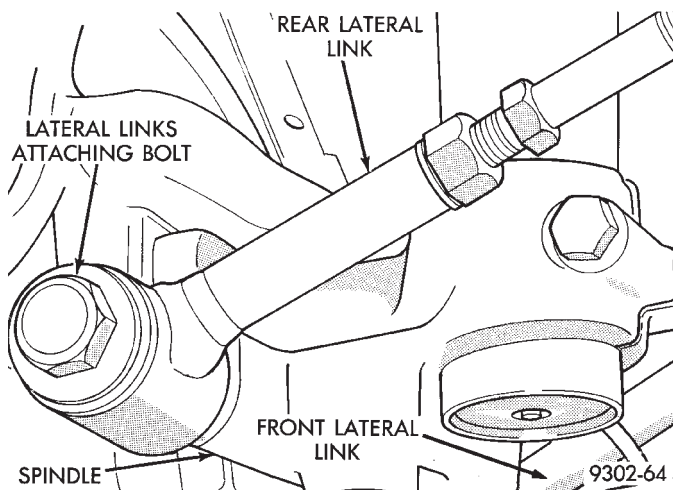

Fig. 4 Lateral Links To Spindle Attaching Bolt
(6) Remove the bolt (Fig. 4) attaching the lateral links to the rear spindle assembly.